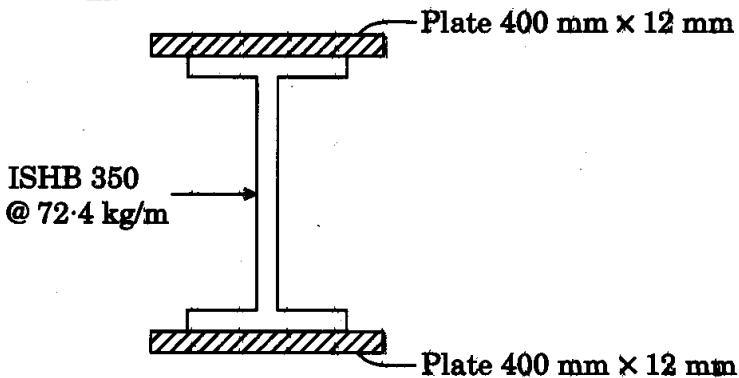

Figure 5
7. Calculate the safe load for the column as shown in Figure 5. Effective length of the column is 5.5 m.